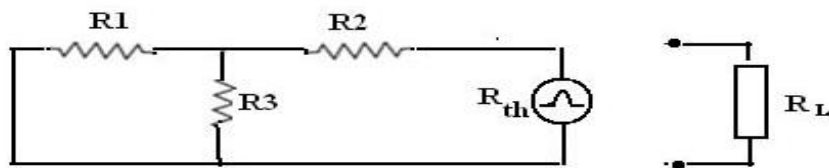

Fig:4
Equation (6) gives the relation between the voltage and time during discharging. The tangent on the discharging curve at $t=0$, (Fig.4) yields the time constant and the voltage across the capacitor will be 0.368 of the full voltage at $t=\tau$.
2. Connect the circuit as shown in fig.4 and note the Thevenin's resistance R_{th} by means of a multimeter.